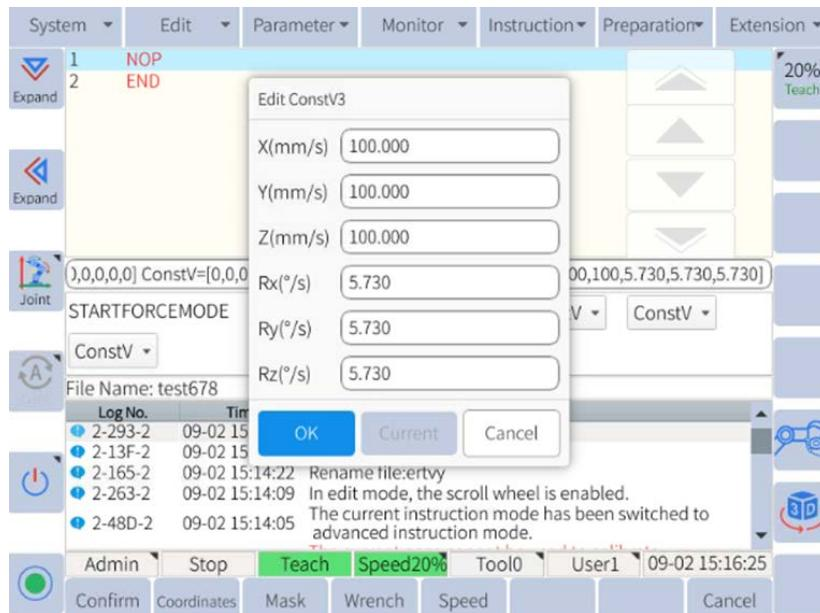

Figure 6-52: Set the maximum speed in the direction of the force control
- The user can set the maximum speed in the direction of the force control in the current force control coordinate system, as shown in **Figure 6-52** (The default is the maximum speed, unit of x, y and z is mm/s, unit of Rx, Ry and Rz is °/s).